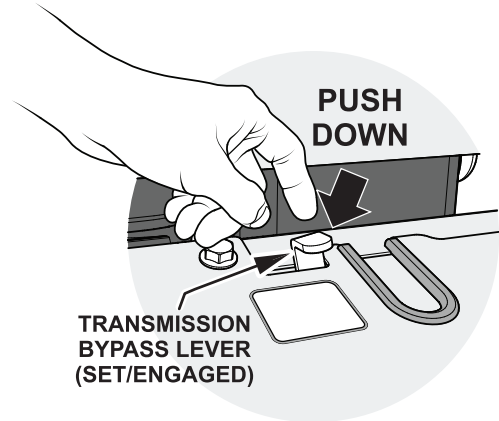

Figure 16. Transmission Bypass Lever (Engaged)
- Make sure the transmission bypass lever (Figure 16) is engaged (down position). To engage, push lever downward and move to the left.
- With the engine running, fully squeeze the **YELLOW** deadman lever (Figure 16) and hold down. Transmission is now active (unlocked).